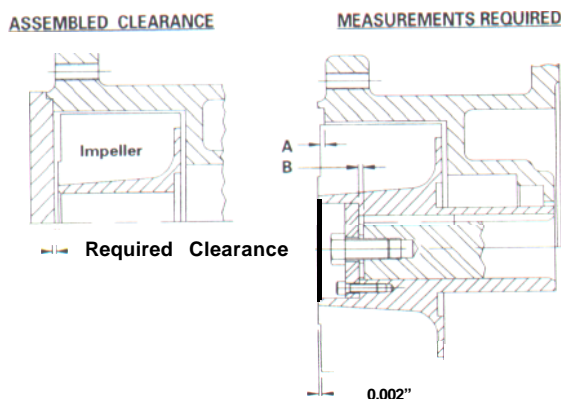

FIGURE 7
Refer to Figures 7 & 10
4. Place a straight edge across the impeller and measure the clearance between the straight edge and machined mounting face of center body (10.50) using feeler gauges (refer to Figure 7). Record this dimension.
5. Total the required clearance per Table 7 and trial clearance measured in Point 4. NOTE: Straight edge must be across impeller hubs, since blade tips are recessed 0.002". per Figure 7.